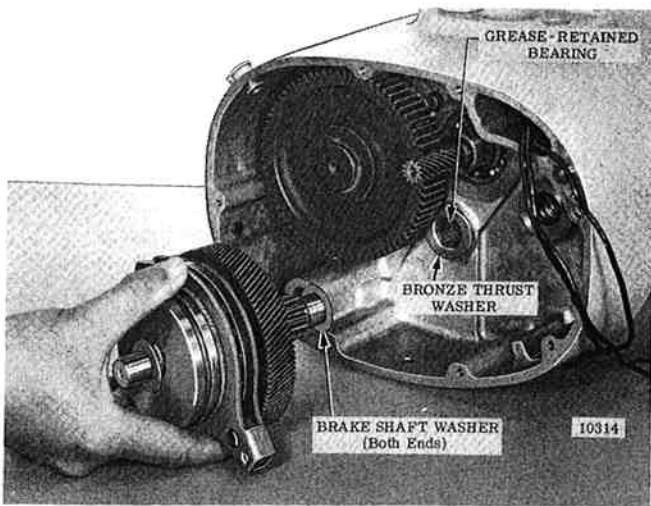

Figure 7-7. Removing Load Brake and Clutch Assembly (1/4 & 1/2 Ton Hoists).
(1) On 1/4 thru 1/2 ton hoists, pull load brake and overload clutch assembly and the brake shaft washers from inside hoist frame (fig. 7-7). Caution: Grease-retained bearing has 36 rollers (all capacities) and may be reinstalled unless rollers are broken or missing or cup is damaged.